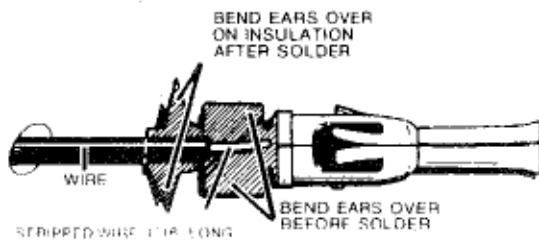

Figure 2.8 Socket Pin Preparation
- 3) The socket pins can then be attached by stripping about 3/16 inch of insulation off of the end of each wire. Place the stripped end into the back of the socket pin, securing the wire by bending the ears on each pin with pliers. Then, solder each wire to its pin (Figure 2.8).